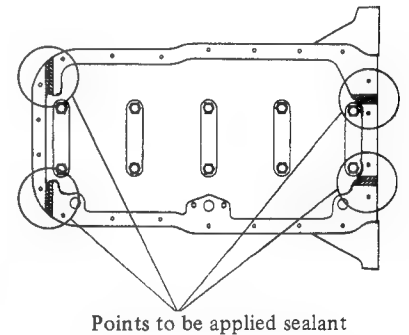

Fig. EM-78 Applying sealant (Cylinder block)
- (4) Cylinder block: Step portions at four mating surfaces (cylinder block to front chain cover and cylinder block to rear main bearing cap). See Figure EM-78.